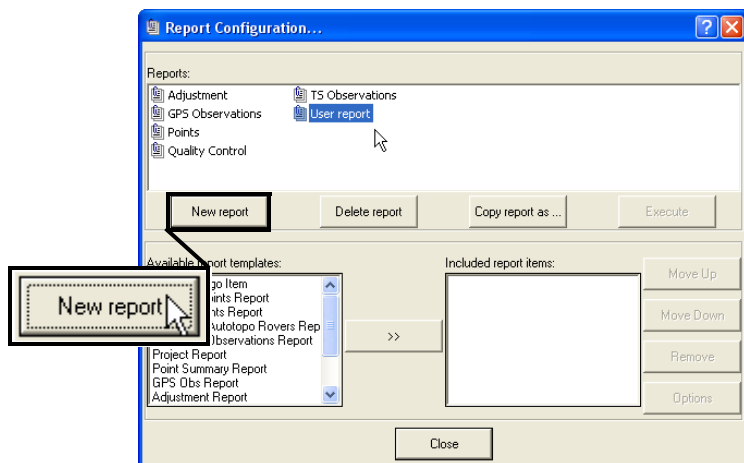

Figure 7-26. Create New Report
1. On the *Report Configuration* dialog box, click **New report**. A report called “User report” appears in the *Reports* window (Figure 7-26).